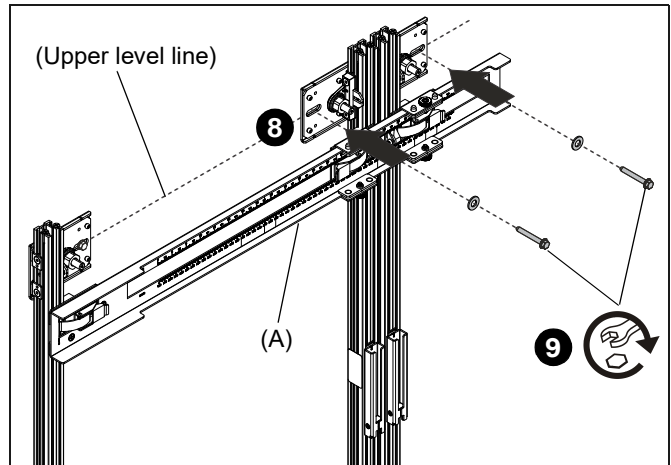

Figure 6
8. Adjust the position of the right and left upright attached to the spacer tool (A) until the upper slots in the mounting flanges line up with the upper horizontal level line.
9. Install the uprights to the wall using the appropriate hardware per the specific requirements of your installation. (See Figure 6)